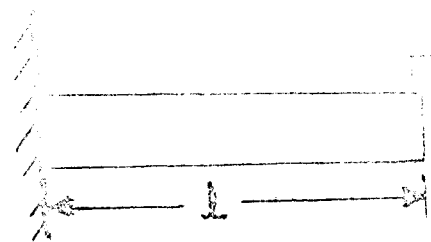

Fig. Q 8(b)
- b. Derive suitable mathematical expression for longitudinal vibrations of a bar of uniform cross – section as shown in Fig. Q 8(b). (10 Marks)